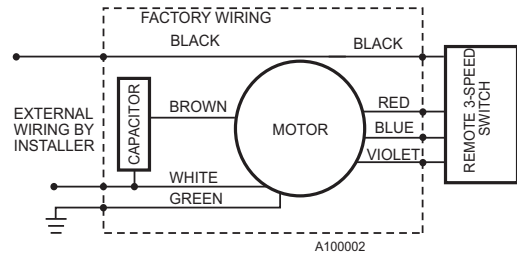

Fig. 3. Typical F111 Series 3, 120V, 60 Hz wiring diagram.
4. Refer to Fig. 3 for typical electrical diagrams.